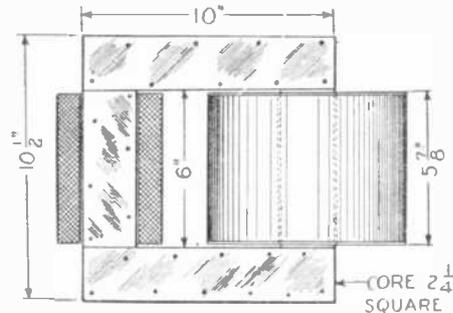
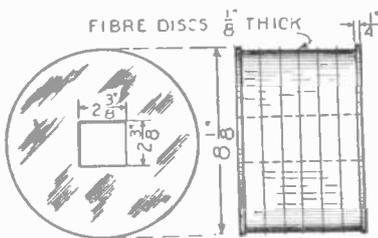

FIG 2
FIG 1
Annealed sheet iron for core as per Fig. 2.
Fig. 1 shows details of motor-driven revolving drum-switch, playing a different tune for each quarter. When the minute hand makes contact, the magnet circuit is closed, the detent M-1 releases the drum, the motor circuit closes and the drum revolves one-fourth revolution; the detent lever falls into the next slot. This causes the motor contacts M-2 to open; all is repeated at the next quarter hour for a different tune. Fig. 2 shows details for building a steel reed chime, while Fig. 3 shows how to wire bell ringer for single and vibrating stroke.
In the diagram Fig. 1 is shown an electric chime ringer having a revolving switch drum (A). This drum can be made of metal or wood and is drilled with even rows of holes around its periphery as shown, one row of holes being allowed for each chime to be rung; four chimes will require four rows of holes, etc. The electric circuit for the chime ringers, which are electric bells, may be carried through the metal axle of the drum, and thence to a brass sheet covering the drum through which the pin holes are drilled; or if preferred the drum may be made of wood, fibre or other insulating material, and the metal pins inserted in the desired holes to play a certain tune, these pins simply closing two contact springs, as shown at Fig. 1 (B). In this case one spring of each set is connected to a common wire, the second spring of each set being connected to an individual chime ringer. Jack springs serve for this purpose very well, as they are fitted with silver or other suitable contact points.
The action of the circuit and revolving drum switch shown at Fig. 1 is as follows: As the minute hand of the clock makes contact with the stationary contact placed at, say, 3 o'clock, it would be a quarter after twelve in the picture (first quarter hour
The contact on the clock dial over which the minute hand contact moves should be of the right length, so that the magnet (M) is energized for a sufficient fraction of time, in order that the motor will start to rotate the drum and keep the armature out of its slot until the slot moves past the armature tooth. Also, it will be seen that the contact on the clock dial must be short enough so that the magnet circuit is left absolutely open, in order that when the next slot, a quarter way around the drum, comes under the armature tooth, the same tooth can drop into it and thus open the motor circuit contact springs (M-2). The armature (M-1) is pulled toward the periphery of the drum by a strong spiral spring provided with an adjustment screw, as shown clearly in Fig. 1.